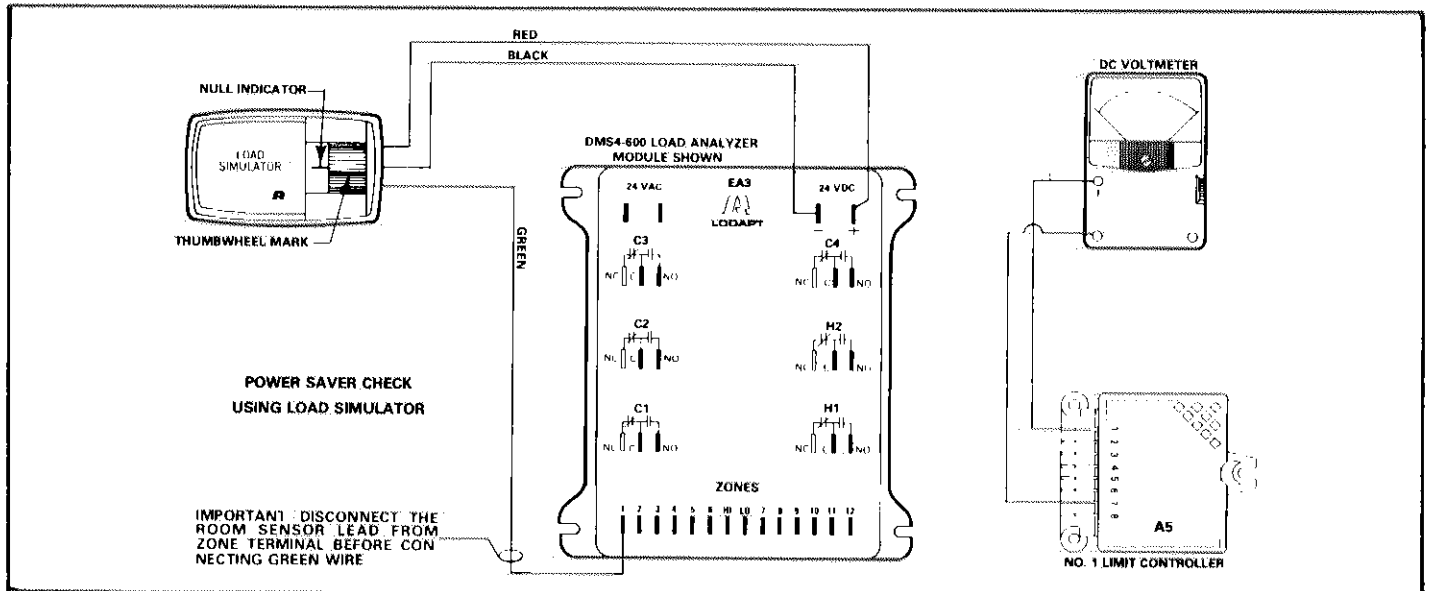

FIGURE 61
- 1 - Connect DC voltmeter negative lead to 24 VDC (—) terminal and positive lead to terminal # 1 on A5 limit controller to obtain cooling command signal. See Figure 61.